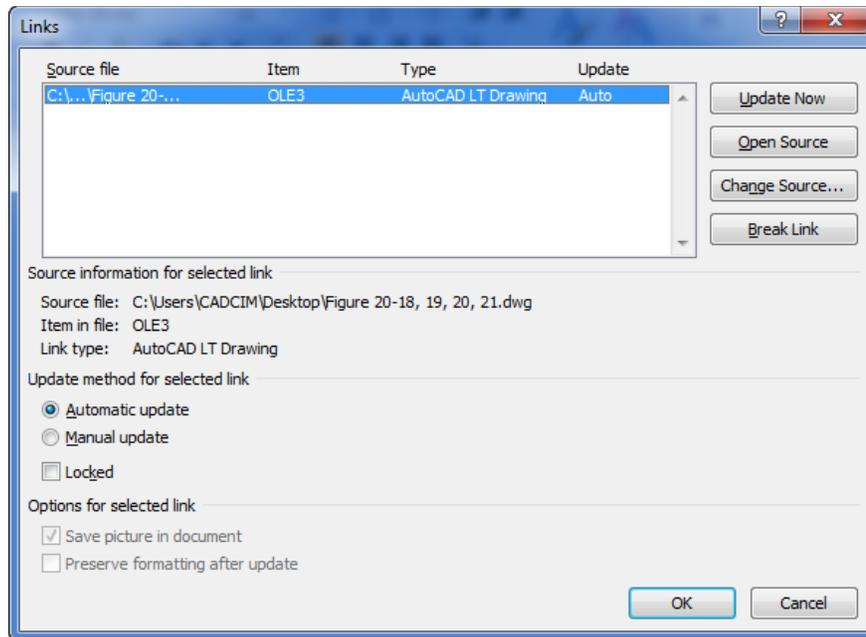

Figure 20-22 The *Links* dialog box
7. You will notice that the drawing is automatically updated, and the changes made in the source drawing are present in the destination drawing also. If the drawing is not updated automatically, right-click on the drawing and then choose the **Update Link** option from the shortcut menu displayed. Automatic updating is possible if the **Automatic** radio button is selected in the **Links** dialog box (Figure 20-22). The **Links** dialog box can be invoked by choosing **Linked AutoCAD LT Drawing Object > Links** from the shortcut menu displayed on right clicking on the drawing in the Word application.